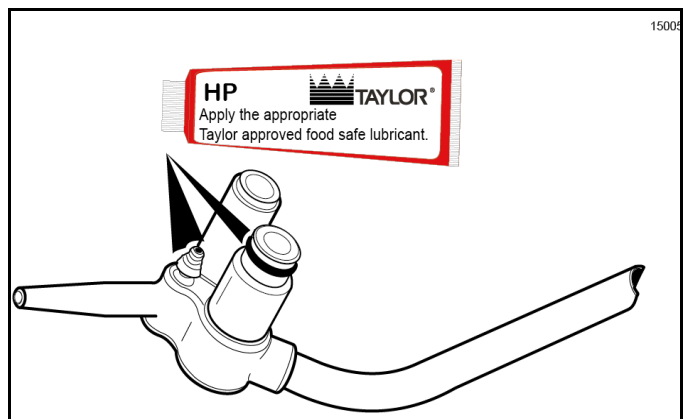

Figure 6-23
- Assemble the mix inlet tube assembly. Slide the O-ring and the seal into the grooves on the fittings and thoroughly lubricate these parts. (See Figure 6-23.)